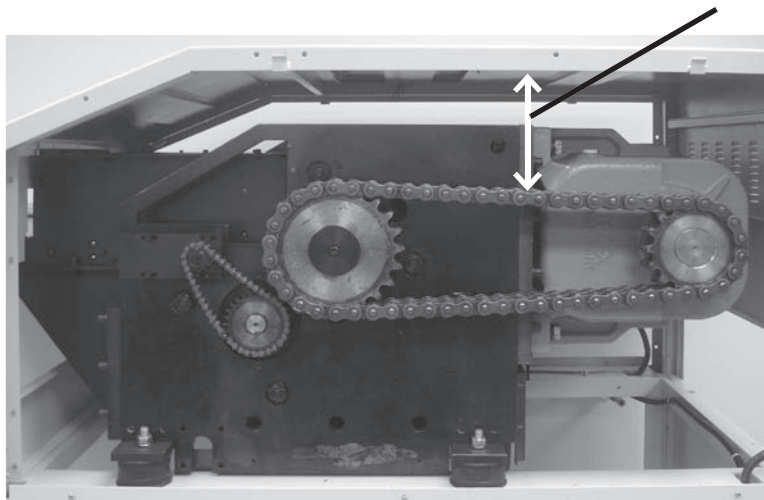

Fig. 3
3. The sagging of the chain (see Fig. 3) should be 9 - 14 mm, measured from the top inside of the frame to the cutting head chain.